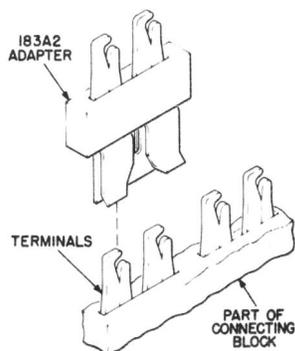

Fig. 13—183A2 Adapter, Installation Detail
4.04 The 183A2 (Fig. 13) adapter provides additional multiplying capacity for any two adjacent connectors in a horizontal row on 66-type